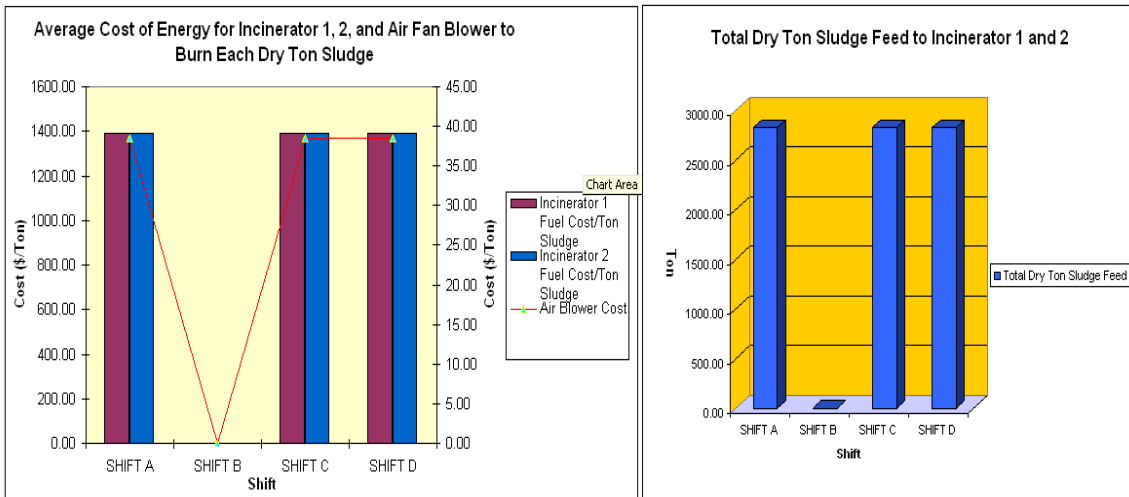

Figure 5
7. Also, FALCONEER can help to build an operation shift performance report. (See Figure 5)